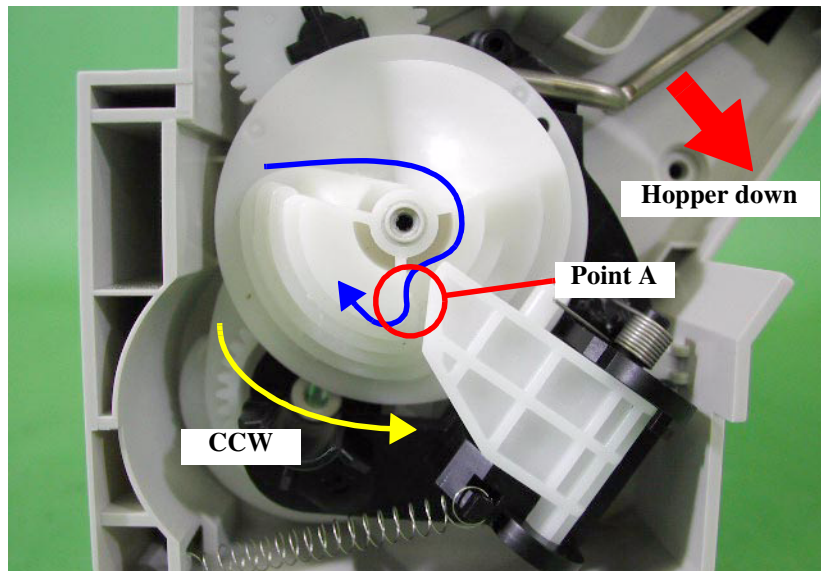
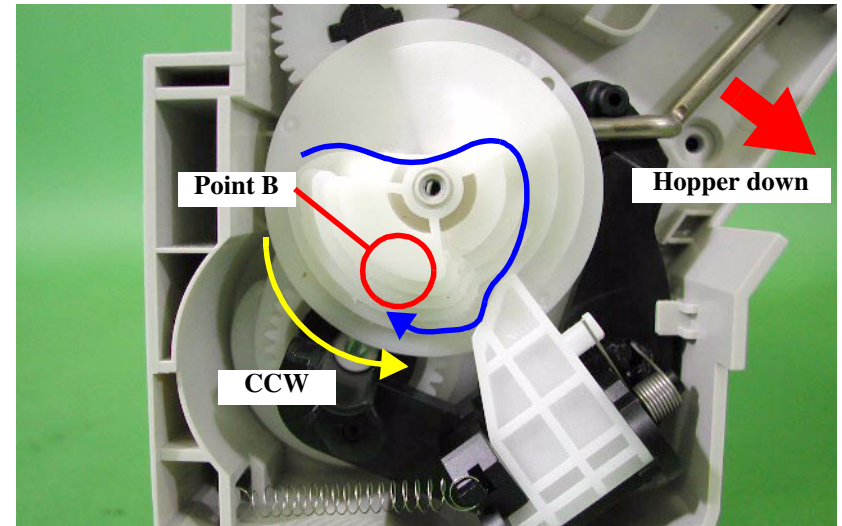

Figure 2-18. Silence Cam mechanism (5)
Figure 2-19. Silence Cam mechanism (6)
- But the stand-by position Step 8 says does not mean the initial hopper-status which Step 1 shows. And this stand-by position will be decided depending on the total thickness of the current installed papers. (Figure 2-18 case, no paper or small quantity of papers is (are) installed to the hopper.)
- This means, if the total thickness of current installed papers is very thick, slow-down nail will pass over the another step different from "Point A" as shown in Figure 2-18. The Figure 2-19 shows the case when user installs 150 sheets of plain papers on the hopper.